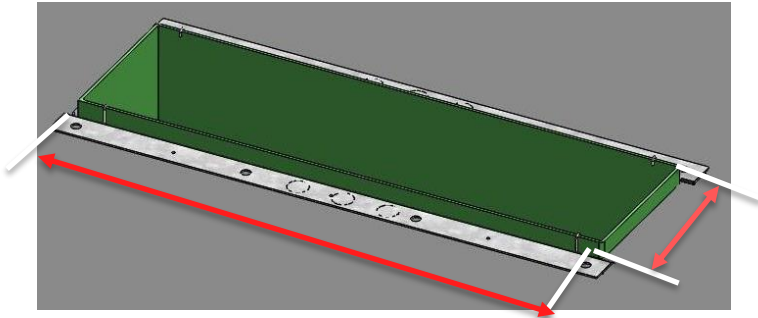

Fig.1
1. Measure the inside length and width of the opening of the existing UDC. Evaluate whether the opening will be concentric or offset. (Fig.1) Use this information to plan accordingly.